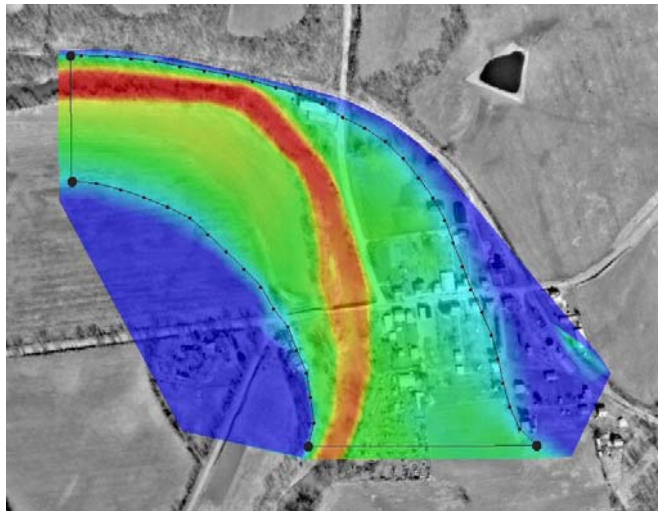

Figure 7-3 Model domain of Double Pipe Creek(I resized this picture so it could still fit on this page.)
6. With the *Create Feature Arc*  tool create the upstream and downstream boundaries of the model domain as shown in Figure 7-3. Delete any dangling arcs that result when creating these two boundaries. Note the arcs are not to be placed on the ends of the existing arcs.